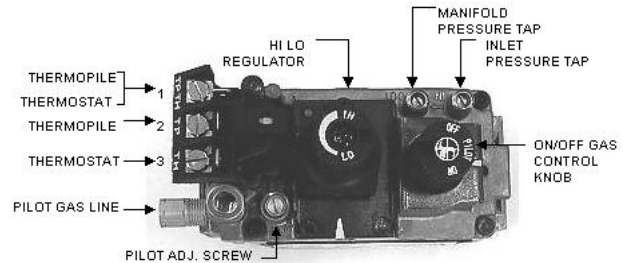

Figure 10: Gas Valve
5. Turn Gas Cock Dial Counterclockwise to "PILOT" position (see Figure 10: Gas Valve).
12. To reduce heat output, turn Hi/Lo Knob counterclockwise to desired temperature (see Figure 10: Gas Valve). Heat output can be reduced by up to 11,000 BTUH (1/3). Blower can also be turned down.
2. For complete shutdown turn Gas Cock Dial (see Figure 10: Gas Valve) to "OFF".